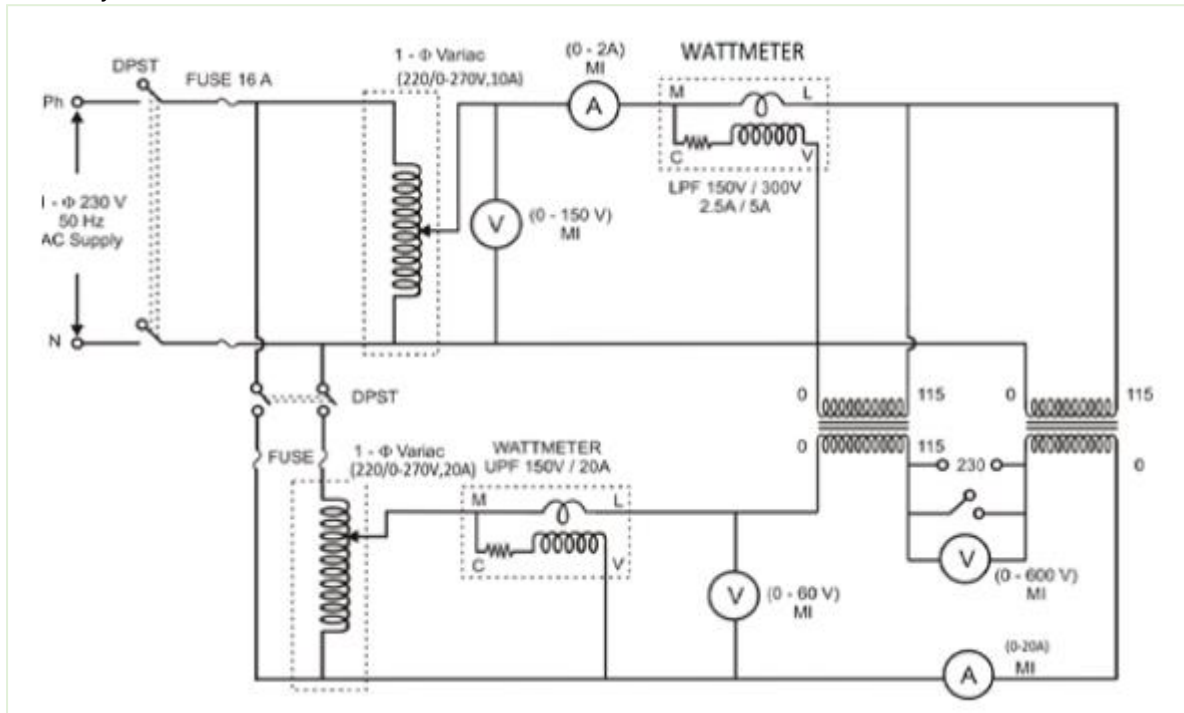

Figure 2 – Sumpner's test on a pair of single phase Transformers
2. Using short circuit characteristics calculate the short circuits current and determine the performance using SCC from Figure 2.
1. Calculate the circuit parameters like currents, voltages and power from Figure 2